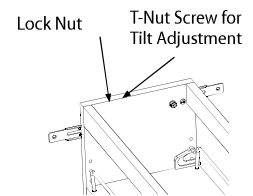

Fig 4
- 1) Loosen the (4) lock nuts (3/8" wrench) inside the front wall of the unit. (See Fig 4)
- 3) Use the (4) #6 x 1/2" flat head screws provided to attach the door to the pullout unit.